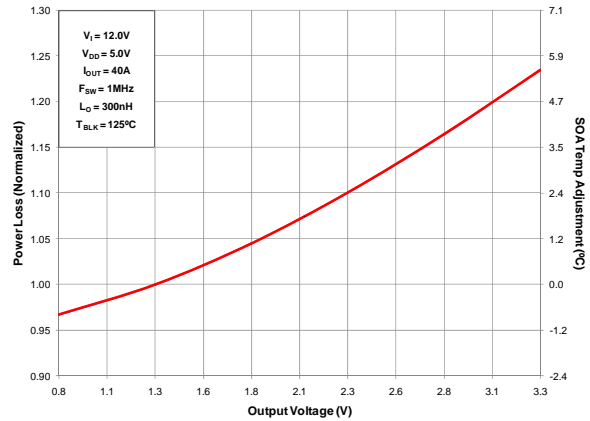

Figure 4 Normalized Power Loss vs. Output Voltage
- (Figure 4) Normalized power loss for output voltage \approx 1.23
- (Figure 4) SOA temperature adjustment for output voltage $\approx 5.5^\circ\text{C}$